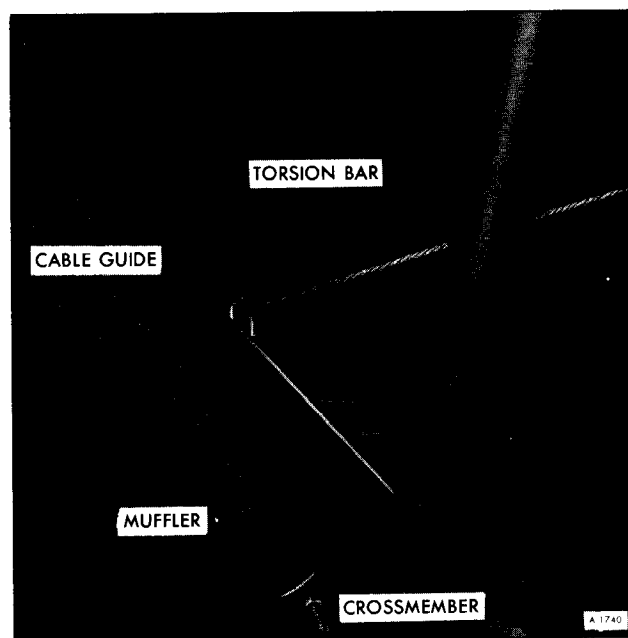

Figure 26—Cable Guide on Crossmember
4. Disconnect cable from guide on frame cross-member (figure 26).